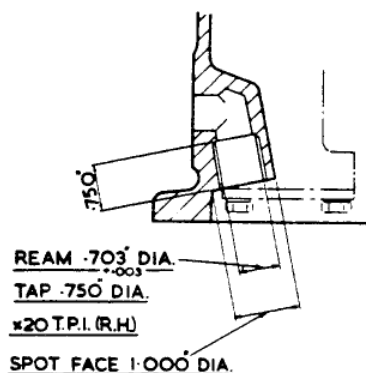

FIG. 4. SECTION SHOWING MODIFICATION TO CRANKCASE FOR OIL FEED STANDPIPE.
- (iii) With the R-4743 (.703"dia) piloted parallel reamer, ream out the hole in the crankcase from which the overflow pipe has been removed and tap .750"dia 20 T.P.I.-R.H. using both taper and plug taps(See Fig.4).
- (iv) Screw the pilot of the spot-facing tool into the tapped hole and spot face 1.000" (25.4m/m) dia. until a clean surface is obtained (See Figs. 4 & 5). Check fit of stand pipe in hole and then remove it.